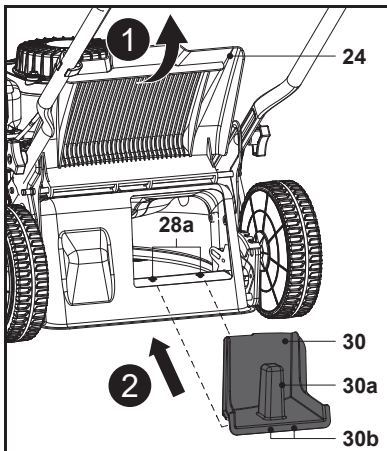

Fig. 14
1. Open the rear deflector guard (24), hold the mulching insert handle (30a) and insert the mulching insert (30) into the rear discharge chute (28) (Fig. 14). Ensure the two locking latches (30b) are properly snapped into the rear discharge chute slots (28a).